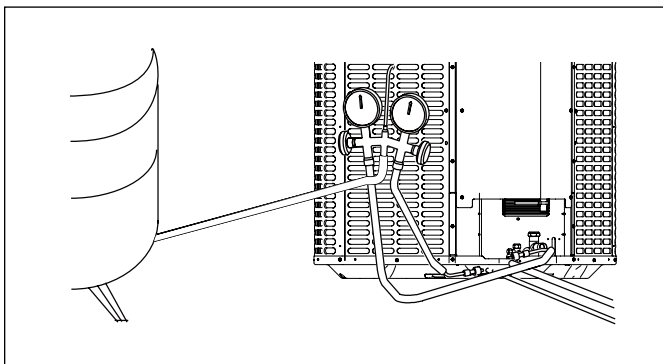

Figure 58
- Connect gauges to refrigerant bottle and unit as illustrated (Figure 58).